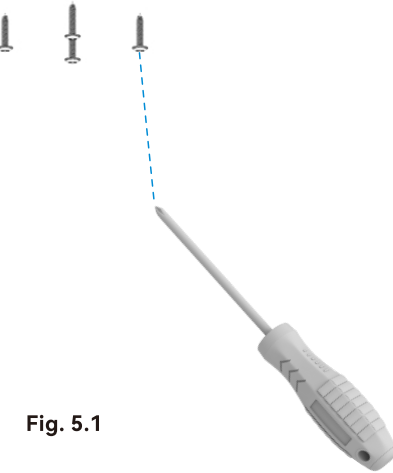

Fig. 5.1
**Option 1:** Secure the mounting plate to a wooden ceiling beam or support structure with an approved electrical outlet box using the ST5x24mm wood screws (included) as shown in Fig. 5.1.